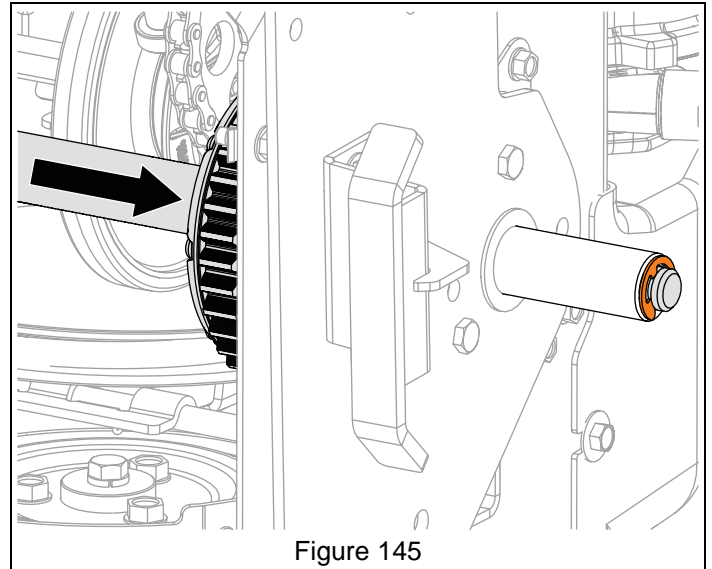

Figure 145
4. Reinstall E-ring onto axle end. See Figure 145.